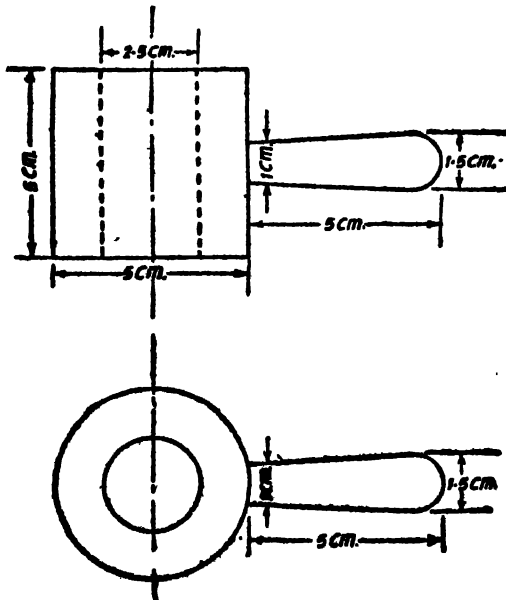

Fig. 5.33
10. Estimate the weight of brass required for preparing a handle shown in Fig. 5.33. Take density of C.I. as 7.2 gm/c.c.